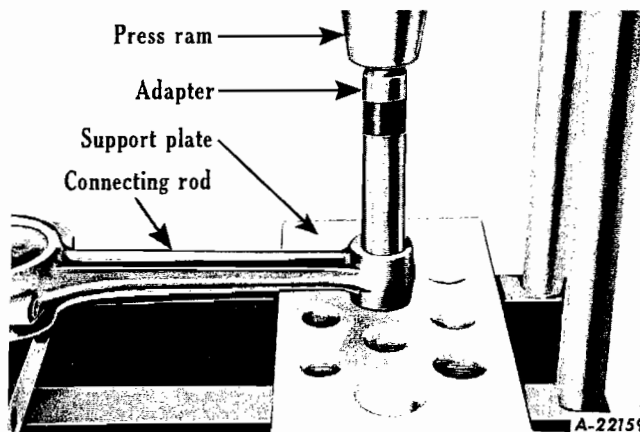
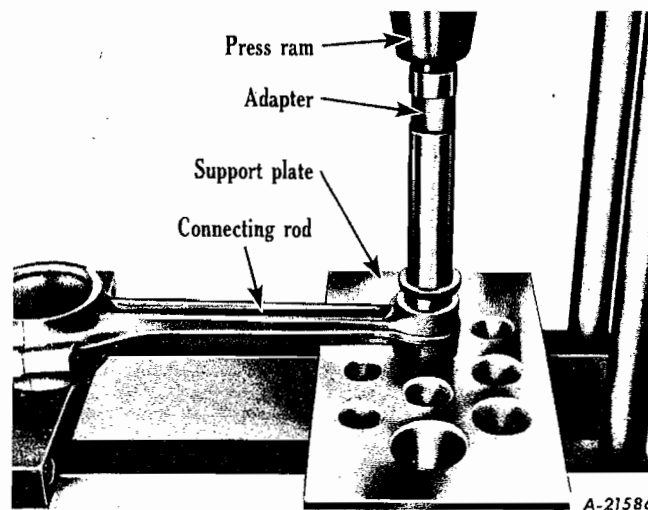
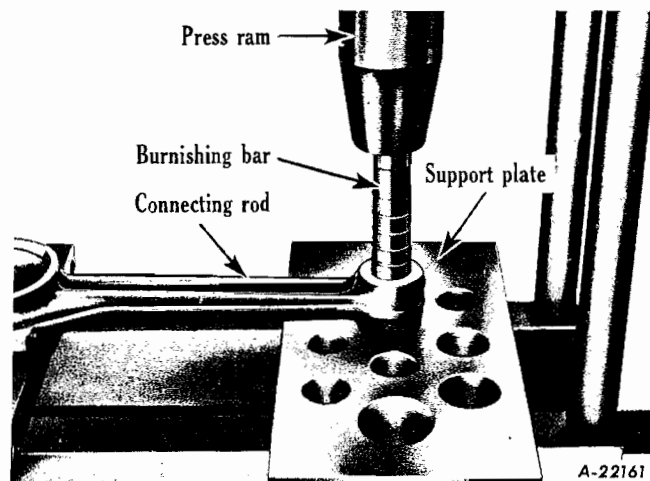

Fig. 29 - Use SE-1036-4 to remove bushing. Select proper hole in SE-1033 Support plate to permit clearance for bushing.
Fig. 30 - Installing new bushing in rod.
Fig. 31 - Burnish bushing using SE-879.
7. With properly fitting adapter, press old piston-pin bushing from connecting rod (Fig. 29). Place new piston-pin bushing in position, align oil hole in bushing with oil hole in connecting rod, (Fig. 30), install bushing with a .0035" to .0055" press fit. Burnish bushing into place in the connecting rod (Fig. 31), then ream pin bushing to provide a hand-push fit.